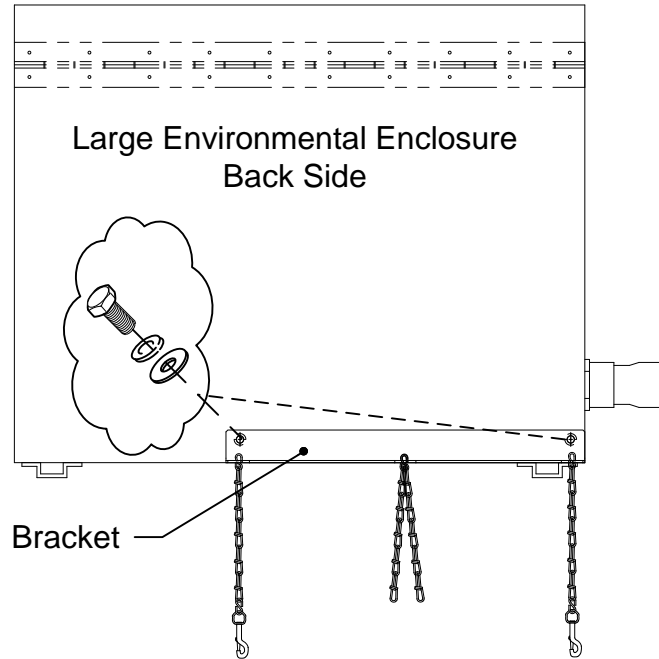

Figure 3-37 ENC82L–Dual Bottle Rack Installation
- 2) Place a split washer then a flat washer on one of the 5/8" bolts and insert through bolt hole located in the bottle rack bracket into the corresponding hole located along the bottom edge of the enclosure, then tighten (see Figure 3-37).